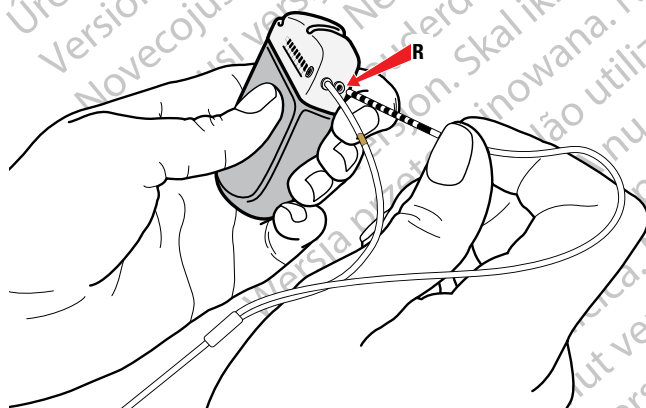

Figure 36. Connection to IPG Port R
- b. Connect the right hemisphere Extension tail with no marker band to port R (or D) (Figure 36).